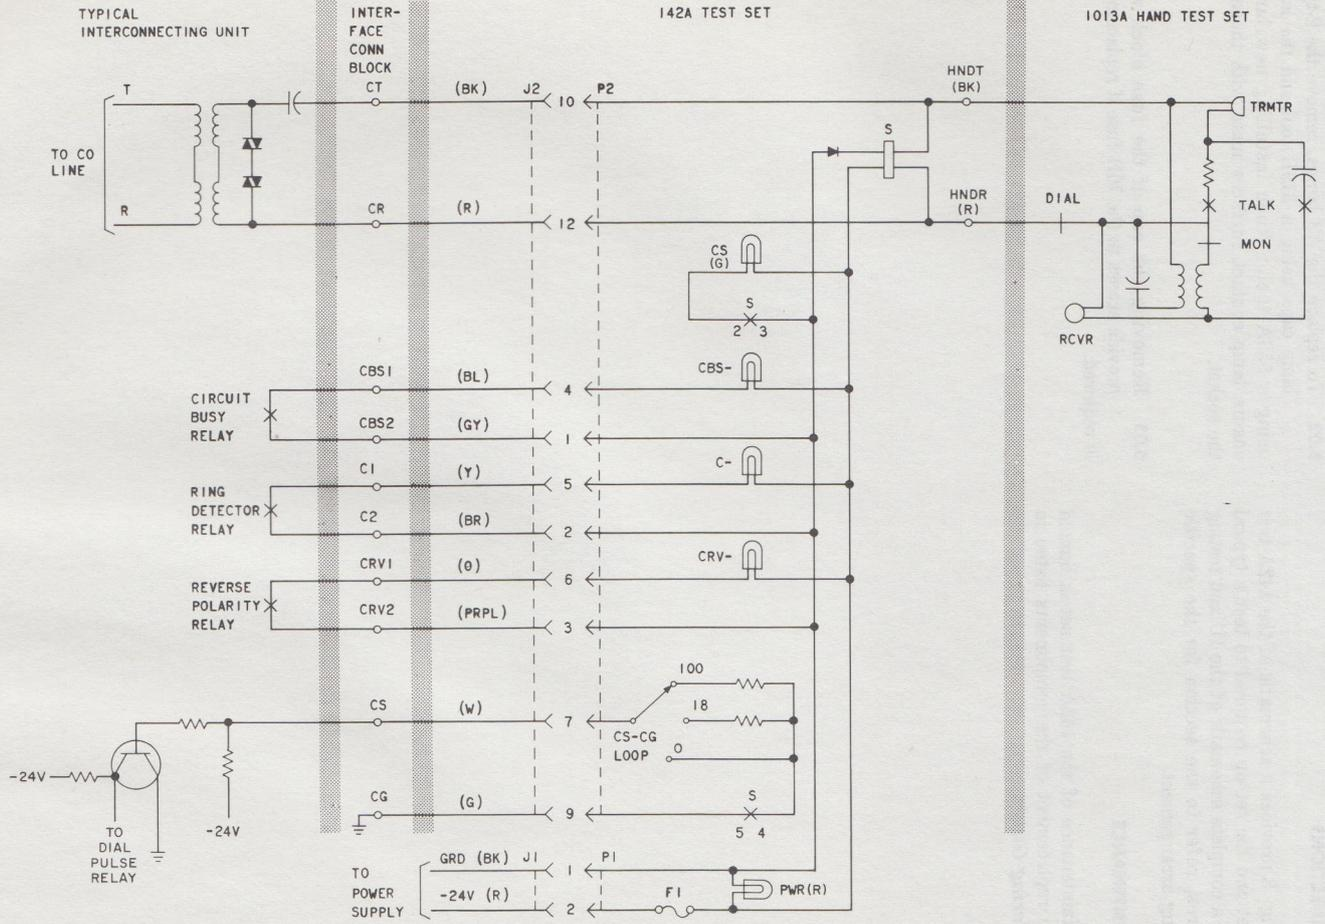

Fig. 3—142A Test Set, Connections
4.01 Fig. 3 provides a schematic of the 142A test set and the set up required to test a typical IU. For a complete schematic of the IU and testing procedures, refer to the section for the specific connecting arrangement.